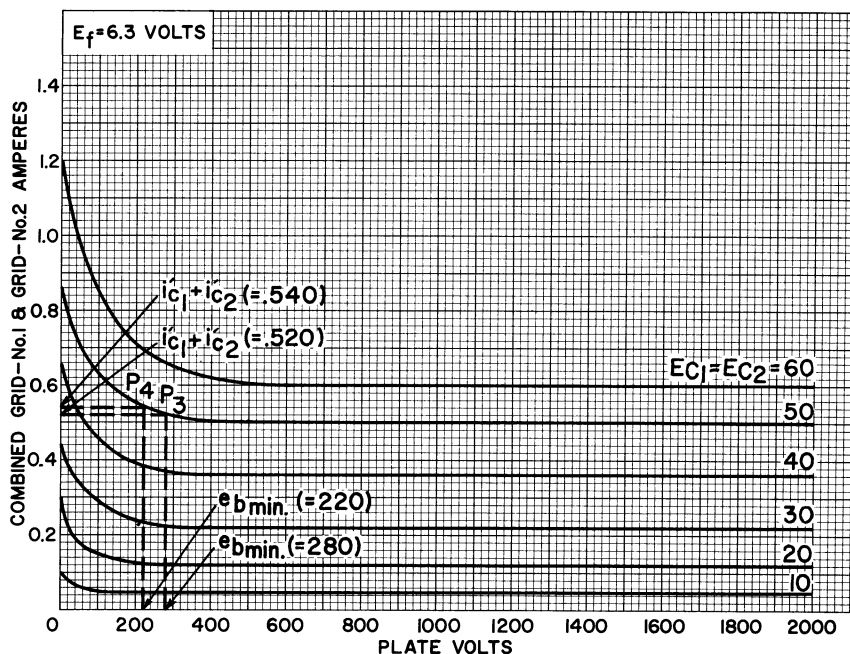

Figure 2: Typical grid characteristics for type 7094 triode connection (grid No. 1 connected to grid No. 2.)
(7) Select a point P3 on knee of one of the curves shown in Figure 1 at which i'_b equals 0.642 ampere. At this point, e_{cm} is +50 volts and e_{bmin} is 280 volts. From the curves shown in Figure 2, $i'_{c1} + i'_{c2}$ equals 0.520 ampere.